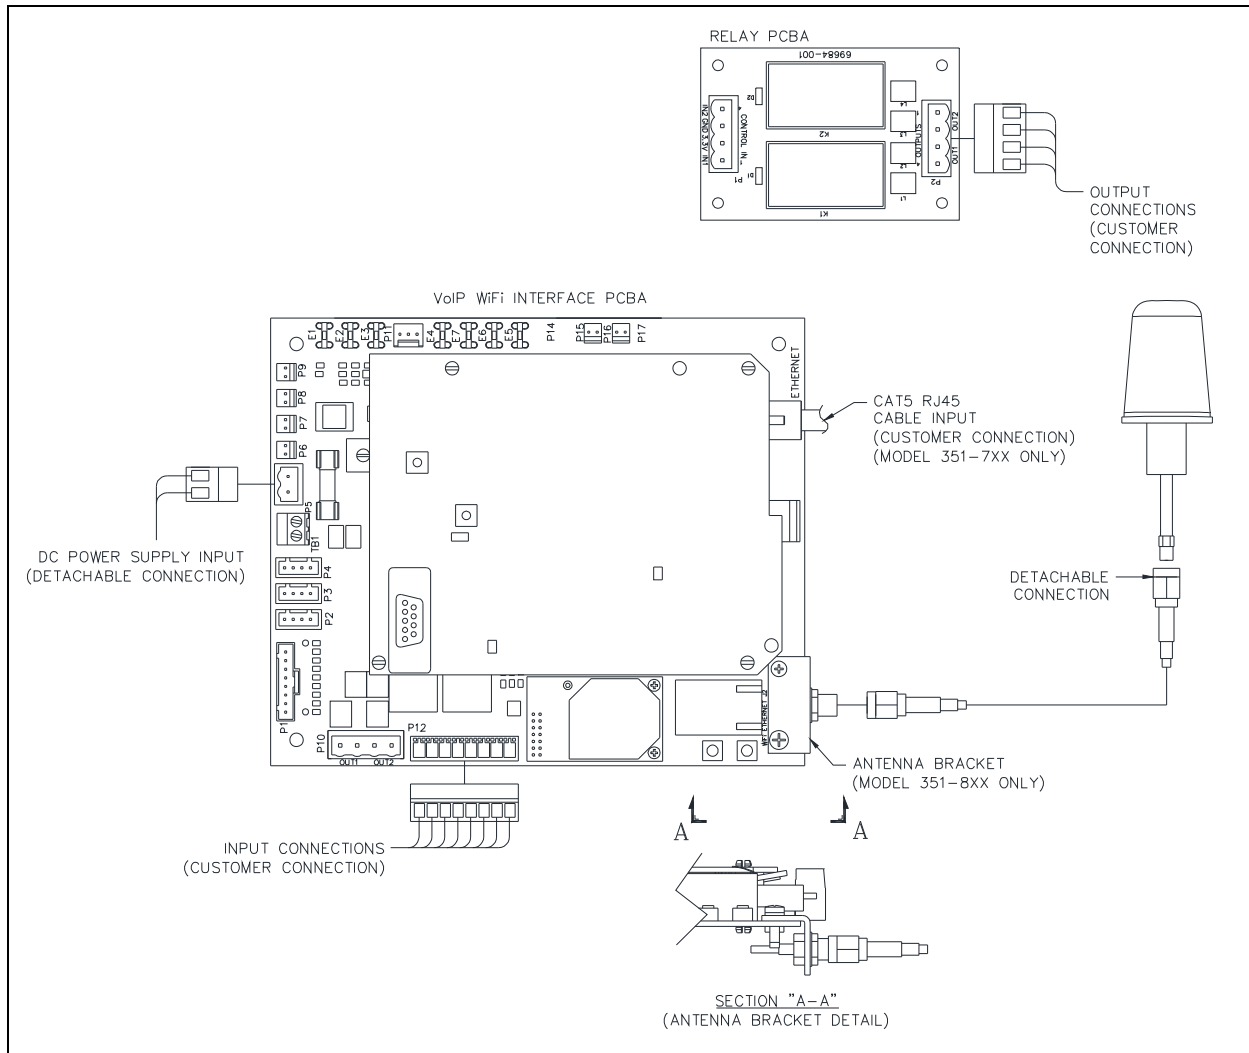

Figure 7. Internal PCBA Connections
2. For wired versions, plug the incoming Cat5 data line into the RJ45 network cable jack on the underside of the VoIP circuit PCBA (see Figure 7).
6. Install any additional connections as indicated below (see Figure 7 for wiring details and Table 5 for the recommended conductor sizes).
Connect a Cat5 or Cat5e UTP cable with an RJ45 connector between the LAN (Local Area Network) and the VoIP PCBA (see Figure 7).
Four clean dry-contact auxiliary inputs have been provided for customer use. Terminate these inputs on terminal block P12 (see Figure 7). Connect each input between the desired input (INPUT 1–4) and common (GND) on terminal block P12. Refer to the Inputs section of GAI-Tronics Pub. 42004-481, VoIP Telephone Configuration Guide, for programming instructions for these inputs.
Two outputs have been provided for customer use. Terminate these outputs on connector P2 on the Relay PCBA (see Figure 7). The function of each output is configurable and can be configured for one of the following modes: